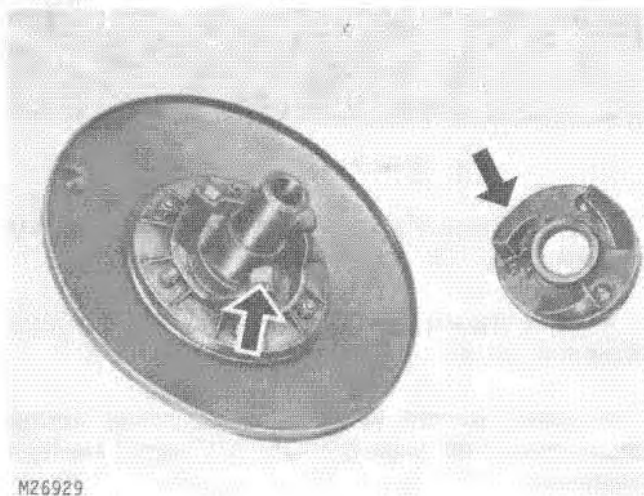

Fig. 10-Inspecting Insert Buttons
11. Inspect insert buttons for wear, Fig. 10. Buttons and mating surface on cam must be smooth. Replace insert buttons as a set.